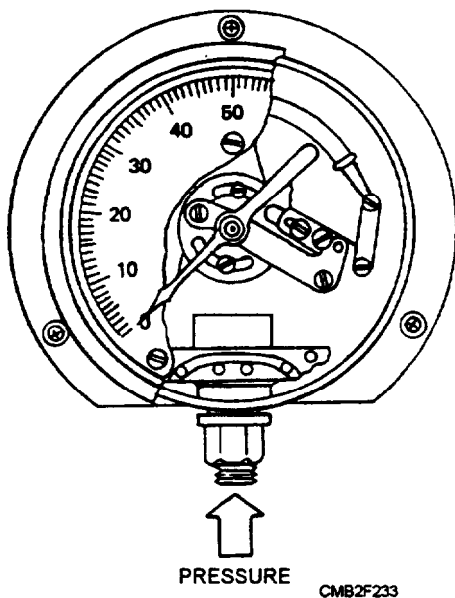

Figure 2-81.—Mechanical pressure gauge.
- The **MECHANICAL GAUGE** (fig. 2-81) uses a thin tube to carry an actual pressure sample directly to the gauge. The gauge basically consists of a hollow, flexible C-shaped tube, called a bourbon tube. As air or fluid pressure is applied to the bourbon tube, it will tend to straighten out. As it straightens, the attached pointer will move, giving a reading.